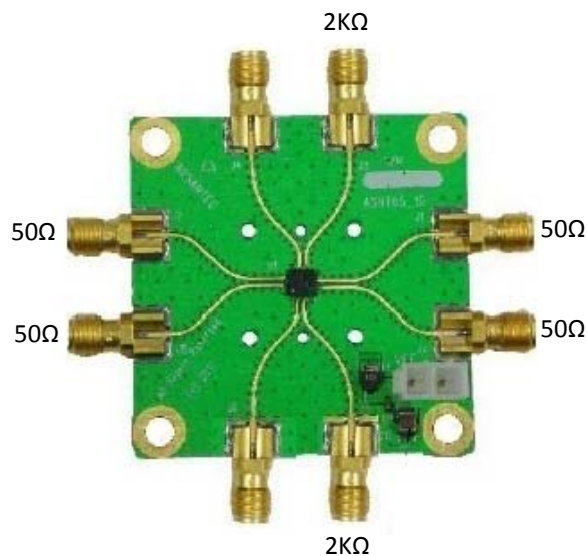

Fig. 2. Impedance of I/O Connectors
2. Measure the resistance of all connector pins to VCC, including the power supply, while making sure the board is grounded. All high speed I/O ports should measure 50Ohms while on the power supply connector, VEE should be high impedance and GND should be a short. tnp/tnn should be 2.0KOhms. Fig. 2 shows the resistance values of the described I/O connectors.